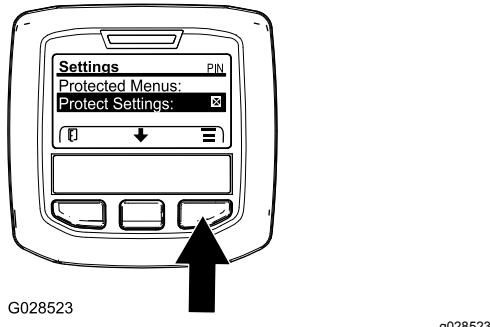

Figure 28
- Access the protected menu and unlock the protected settings submenu (Figure 28); refer to Accessing Protected Menus \(page 21\).